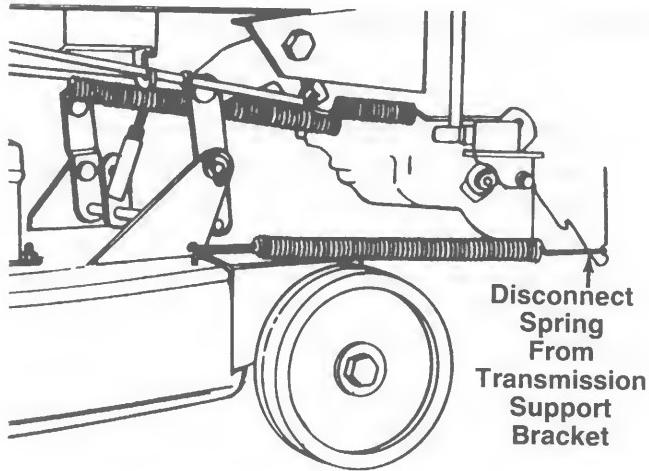

FIGURE 26.—Model 784G
- Disconnect the spring from the transmission support bracket. See figure 26.